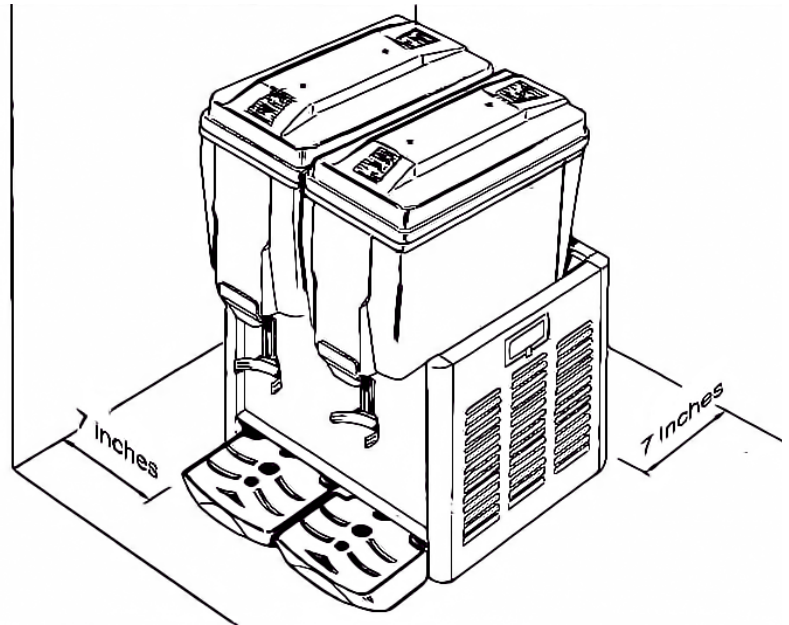

Fig. 1
4. For good ventilation, keep a distance of 7 inches, between unit and walls or other objects. Increase the distance if the obstacles are a heating source. When the dispenser is in place, adjust the legs in order to keep it level. (FIG.1)